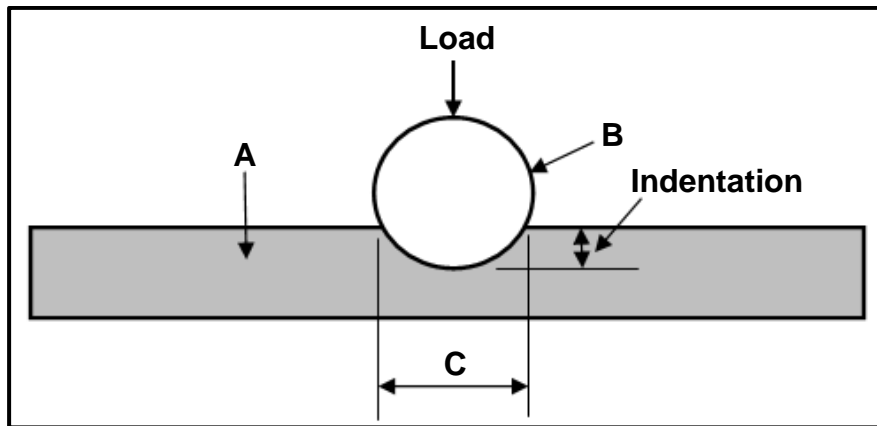

FIGURE 7.2
7.2 FIGURE 7.2 below shows a diagram of a Brinell hardness tester. Label A–C.